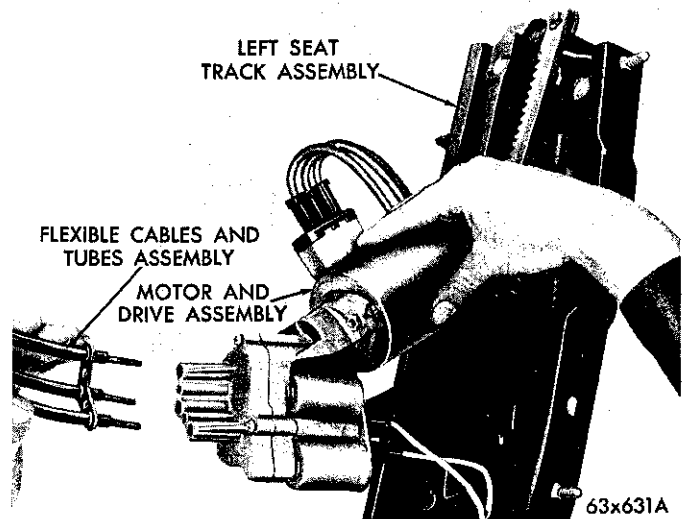

Fig. 2—Removing Cables from Drive Assembly
- (1) Remove the front seat assembly.
- (2) Disconnect the red feed wire.
- (3) Remove the retainer plate that holds the right side tubes to the drive assembly.
- (4) Remove the left seat guide attaching stud nuts and remove the guide and the drive assembly (Fig. 2).